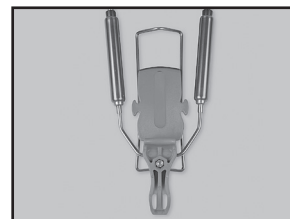

FIGURE 9
- 2.) Always make sure the Hardwire heel assembly is centered in the ski to maintain even pre-load of the spring cartiges. If the spring cartidges come out of adjustment, rotate clockwise to tighten and counter clockwise to loosen, to bring the heel lever back to center. Before skiing, make sure you always have an adequate load on the spring cartridges for maximum performance. (SEE FIGURES 9& 10)